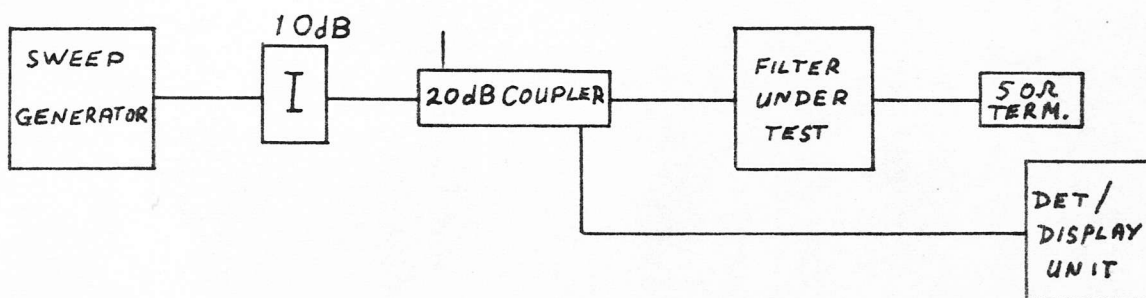

Fig. 1 Return Loss
The apparatus should be set up to measure return loss or through response see Fig. 1 or 2 respectively.
- (a) Connect the apparatus as shown in Fig. 1. Note the filter type being tested A, B or C and observe its return loss over the appropriate frequency band. See specification.